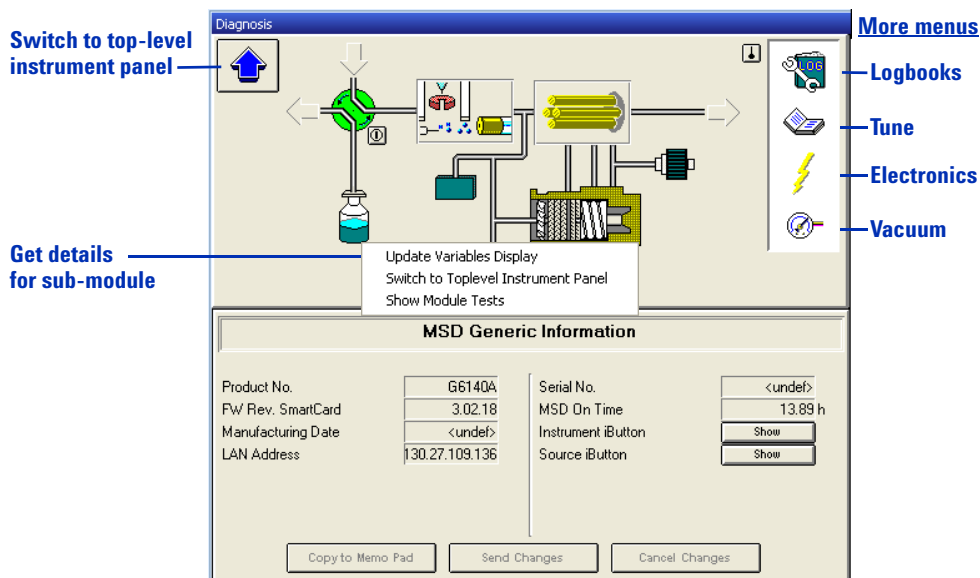

Figure 62 Instrument panel – module details for the MS.
- **Show Module Details** – Display a detailed schematic of the module, as shown in Figure 62 on page 118.
As you move your mouse across the diagram shown in Figure 62, whenever the cursor changes from a pointer to a hand, you can click to display a menu that gives access to details for a sub-module. For example, you can click the icon for the turbomolecular pump to view vacuum readings, or the icon for the quadrupole to view its temperature. You can also click the icons in the white area on the right to display their menus.
- The **Logbooks** icon, shown in Figure 62 on page 118 (click the icon and select **Update Variables Display**)
You access the maintenance logbook via the **Logbooks** icon, shown in Figure 62 on page 118. (Click the icon and select **Maintenance Logbook Entry**.) Then you manually enter the information via ChemStation software.